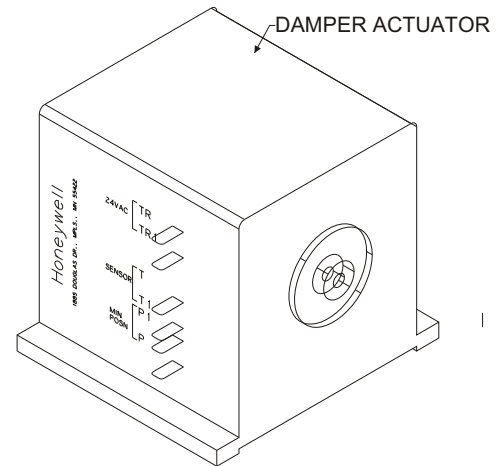

Figure 8 - M7415A
4. Install jumper on damper motor terminals T and T1. **See Figure 8.**
7. Remove T and T1 jumper on damper motor, then restore power to unit. Adjust minimum vent position on potentiometer on damper motor. **See Figure 8.**